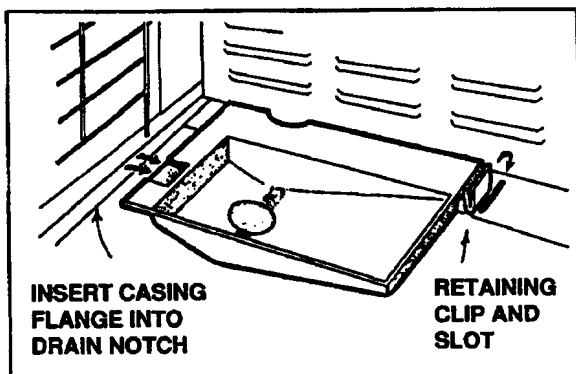

Fig. 20 – Positioning External Drain
- Mount external drain in corner of unit casing. See Fig. 20. (Drain will be positioned directly beneath the opened drain stub when chassis is installed in casing.)